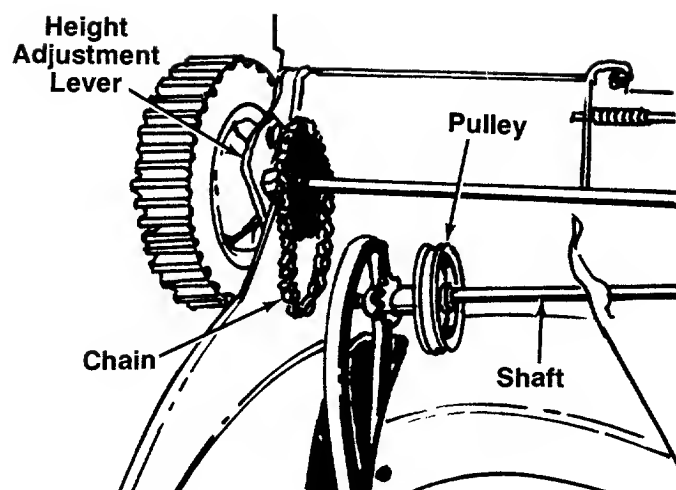

FIGURE 26.
11. Reassemble in reverse order with the new belt, making certain the idler pulley is under the belt. See figure 26.